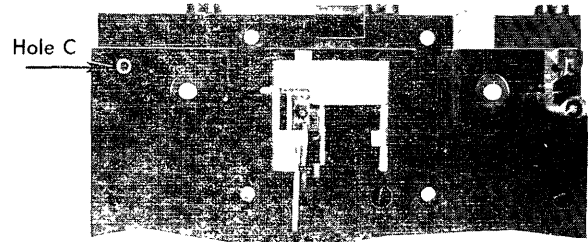

Figure 3
For Type TK — Figure 3
1. Using hole C, Figure 3, as a pilot, drill a .187 dia. hole .327 (21/64) deep.